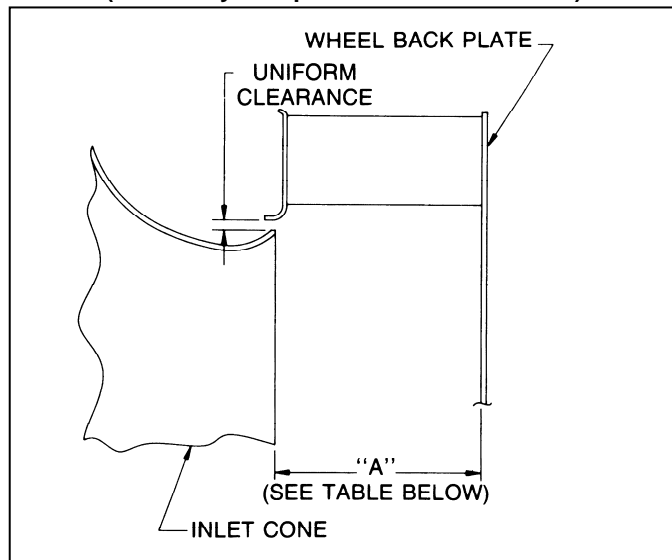

Figure 3
6. When installing a new Tubular AcoustaFoil wheel or inlet cone, the proper wheel-to-inlet cone clearance must be maintained (see Figure 3 for correct full-width wheel dimensions).